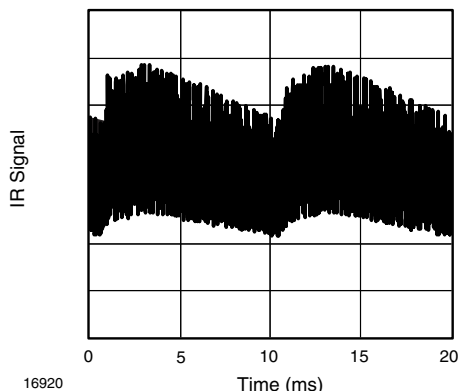

Fig. 14 - IR Disturbance from Fluorescent Lamp with Low Modulation
- Strongly or weakly modulated patterns from fluorescent lamps with electronic ballasts (see fig. 14 or fig. 15)